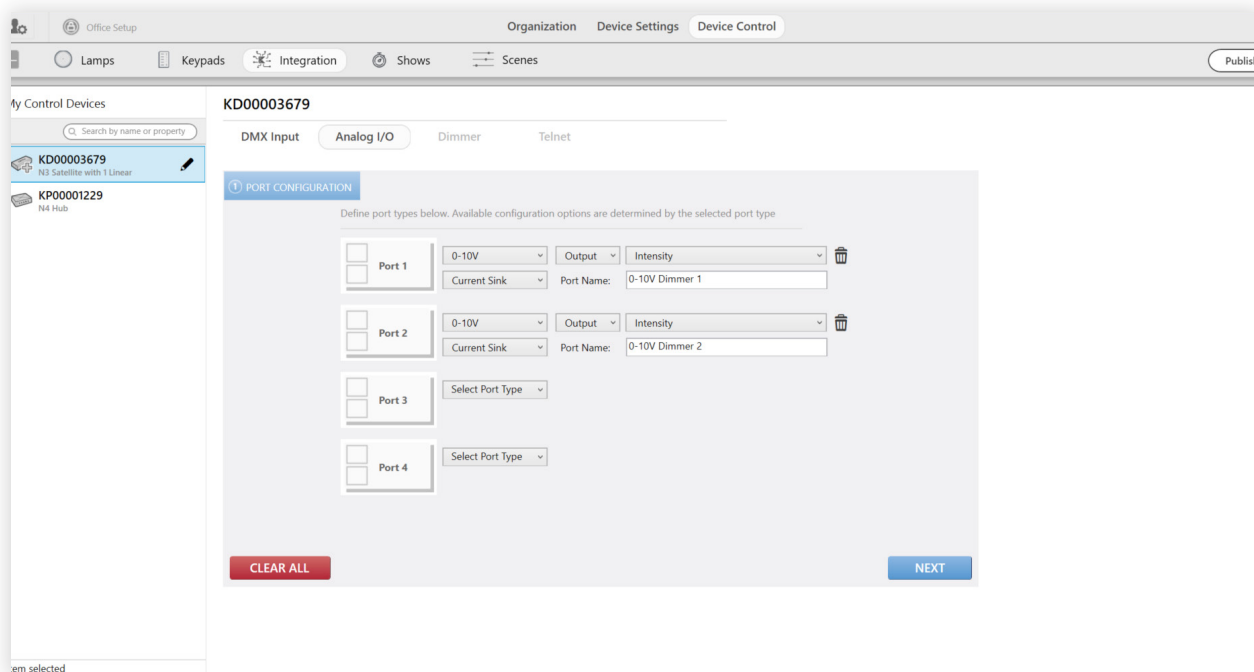

fig. 71
- 3 **Configure the port(s).** Choose between contact-closure and 0-10V; then choose **Output**. If you are configuring a contact-closure output, choose whether it is normally open or closed. Conversely, if you are configuring a 0-10V output, choose whether the port is a current sink or a current source. See fig. 71.